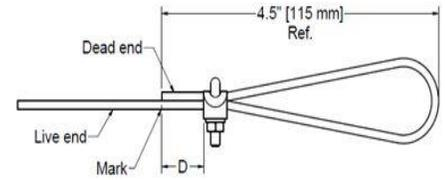

FIG. 02
- Loop the dead end wire rope onto the live end wire rope to achieve approximately 4.5" or 115mm long loop [SEE – FIG. 02].
- Mark or tape onto the live end wire rope where the spot where the dead end wire rope is per dimension specified above [SEE – FIG. 02].
- Dimension [D] [SEE – FIG. 02] between the edge of the Wire Rope Clip and the dead end wire rope should be at least 1.5x and not more than 3x the width of the Wire Rope Clip.
- Apply the first Wire Rope Clip as shown in FIG. 02.